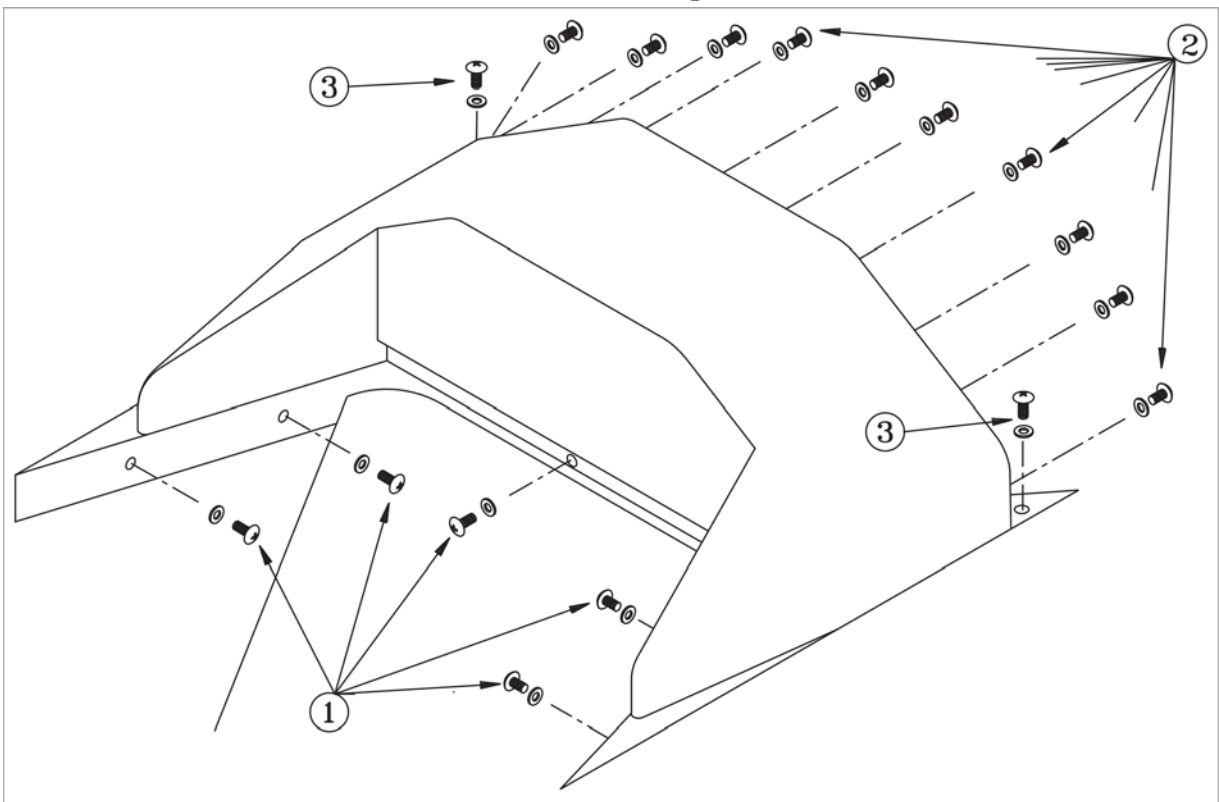

Figure 3
- 1 Remove the screws located at the top of the front seat back rest (1, Figure 3).
- 2 Remove the outer screws (2) of the rear instrument panel (The two inner screws connect the panel to the steel-frame).
- 3 Remove the cockpit corner cover screws (3).